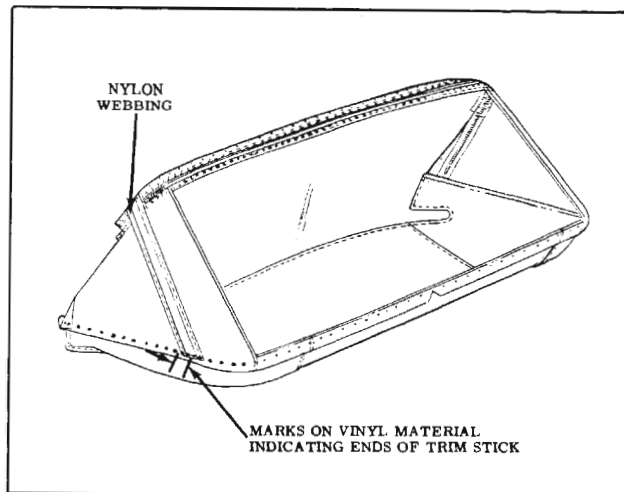

Fig. 16-118 Marking Back Curtain
18. Using chalk, or other suitable material, mark ends of rear and rear quarter trim sticks on vinyl surface of back curtain material. (Fig. 16-118) Reference marks for trim sticks should be transferred to new back curtain material when step 7 of installation procedure is performed.
19. Remove right and left nylon webbing from rear trim stick. (Fig. 16-118)